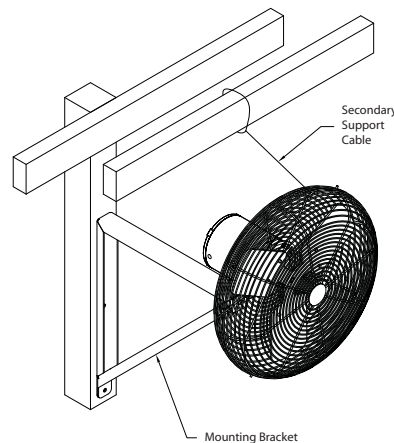

Figure 5 — Secure Cable to Nearest Support
4. Wrap the other end of the cable around a secure building joist, beam, truss or other support near the fan as shown in Figure 5. Take up all excess slack in the cable. If the fan is an oscillating model and wall mounted, leave enough slack to allow free movement through range of motion.